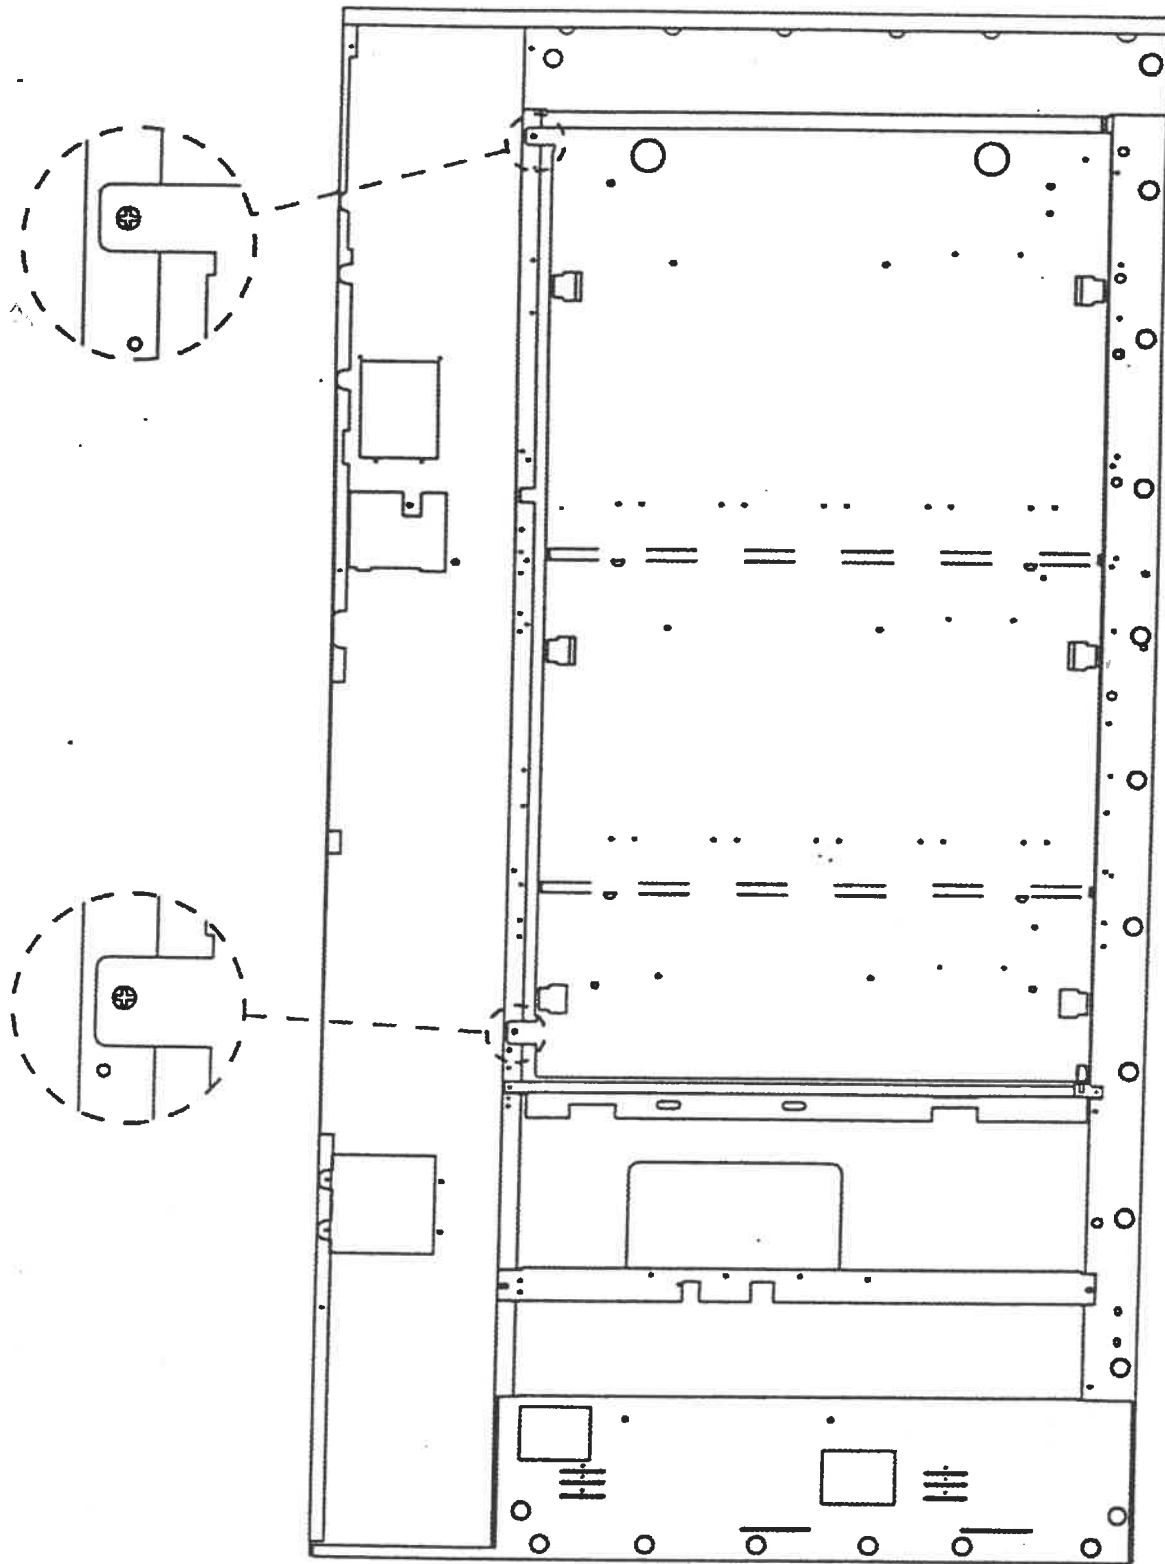

FIGURE 1
1. Using a Phillips screwdriver, remove the two screws to gain access to the panel. See figure 1.